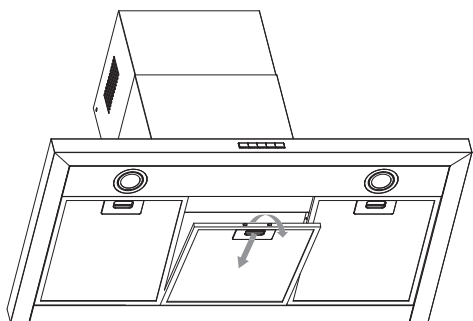

Fig.10
- Removing the filters according to Fig.10.
- Remove the filters see Fig.10.